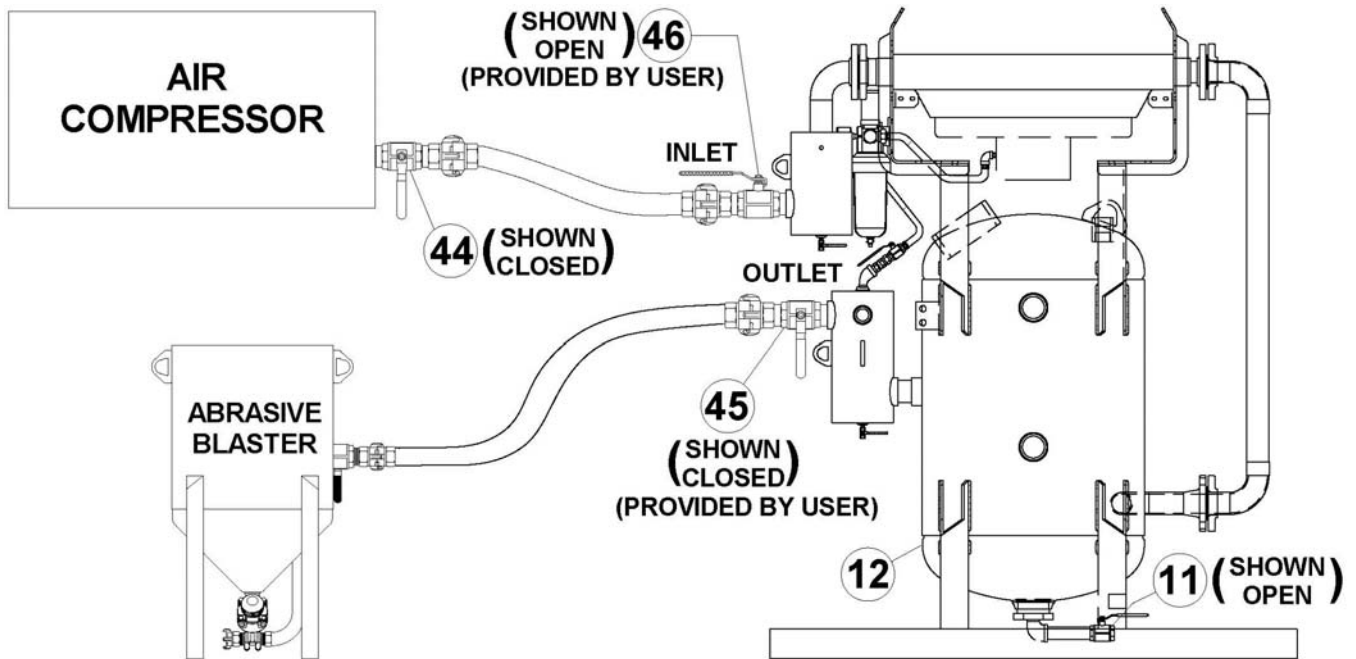

Figure 6.2 – Typical AirPrep System (ADS System shown)
- 6.2.1. Close the air compressor outlet ball valve (#44, provided by user). See Figure 6.2.
7.2.4. Open the AirPrep System air inlet ball valve (#46). **Note:** This valve is provided by the equipment owner/operator and filed installed. See Figure 6.2 and Section 5.1.
- 7.2.9. Open outlet ball valve(s) (#45) to supply air to the connected equipment (see Figure 6.2).
- 7.3.2 Close all the AirPrep System air outlet ball valves (see Figure 6.2).
- 7.3.3 Turn off the air compressor and/or close the compressor’s outlet valve (see Figure 6.2).